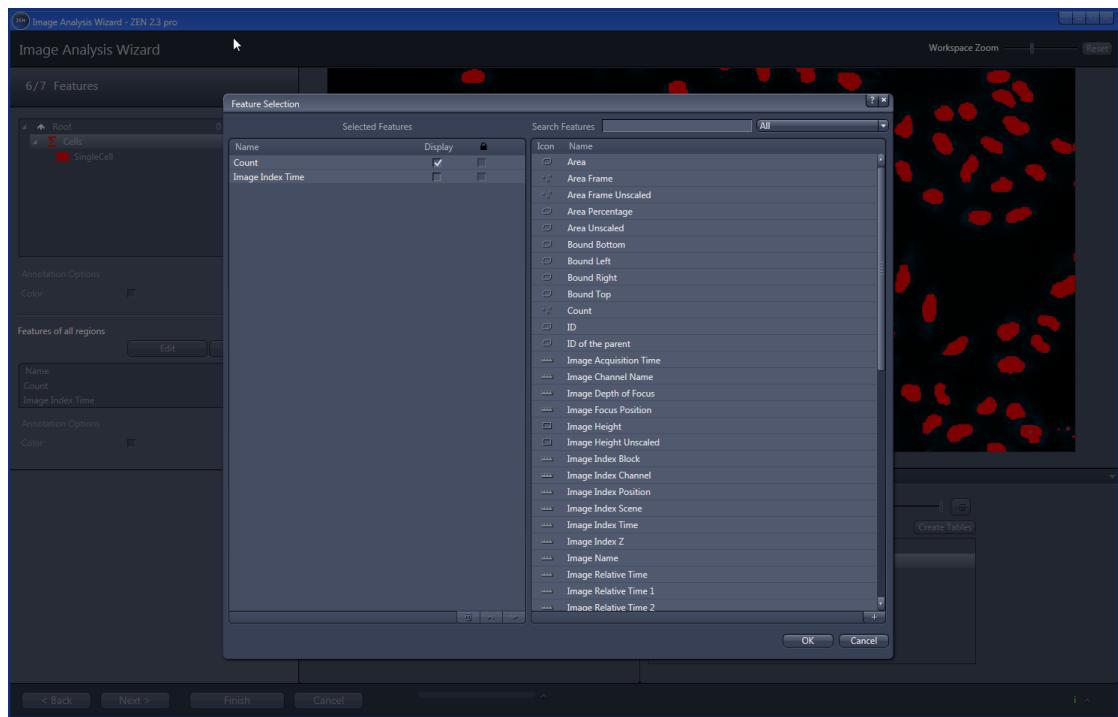

Figure 18: Image Analysis Wizard: Select the measurement features
3. Define the features for all objects (parameters for 'Cells') and for the single objects (parameters for 'SingleCell'). For this example it is sufficient to define **Count** and **Image Index Time** as parameters for 'Cells', which give you the number of single cells for each frame and the image index time, respectively (Fig. 18).